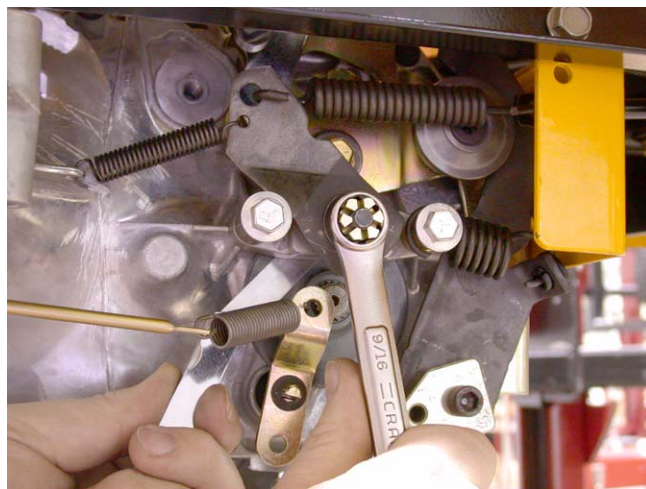

Figure 26.11
- 26.11. Remove and discard the cotter pin. A 9/16" wrench will turn the adjustment nut. See Figure 26.11.
26.26. Install the brake caliper, tightening the two bolts to 7 to 10 ft.-lbs., then check and adjust the pad-to-rotor clearance. See Figure 26.11.